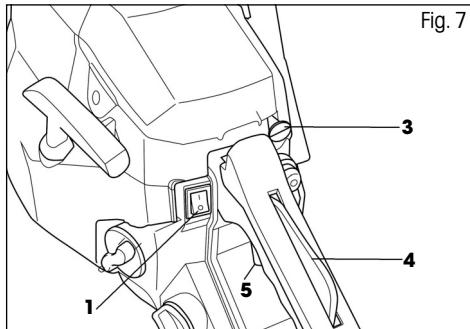

Fig. 7
1. Set the power switch to the "I" position. (see Fig. 7, point 1)
2. Pull out the choke lever (Fig. 7, point 3) to the "OFF" position (=air supply turned off, i.e. choke turned on).
4. At this point, push the choke lever (Fig. 7, point 3) downwards to the "ON" position (=air supply turned on, i.e. choke turned off) and start the engine by repeatedly pulling on the starting cord.
- Set the power switch (Fig. 7, point 1) to the "I" position.
- To increase speed, first use the palm of your hand to push down the throttle safety switch (Fig. 7, point 4) and then use your finger to pull on the throttle trigger (Fig. 7, point 5)
- Release the throttle trigger (Fig. 7, point 5) and switch the power switch (Fig. 7, point 1) to the "0" position.